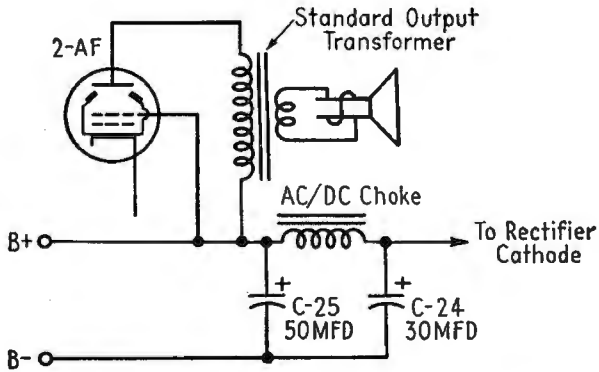

FIG. 18-31.—Replacing a hum-bucking-type output transformer. Method 3.
3. Use the circuit of Fig. 18-31. This replaces the filter resistor with a small choke. This method is satisfactory, provided that there is room in the receiver to mount the choke.